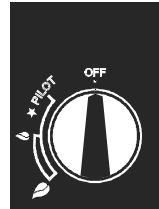

Figure 2 - Off Position
1. Ensure that the arrow on the control knob is pointing towards the OFF position as shown in **Figure 2**. Press in the knob and slowly turn anti-clockwise until a click is heard. The spark should now light the pilot. On first lighting, it may require several attempts to allow the pilot light to be purged of air.